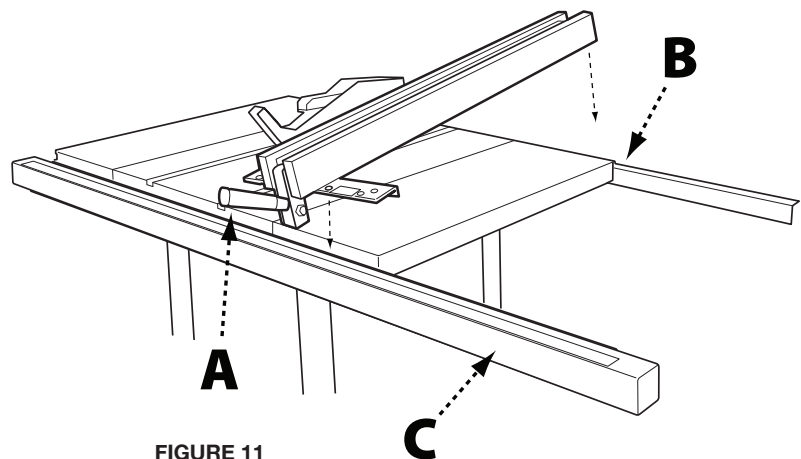

FIGURE 11
1. Place the fence on the guide tube, lift the fence clamping lever (A), and guide the fence over the rear guide rail (B) as shown in Figure 11.
2. Gently push the fence on the guide tube (C).